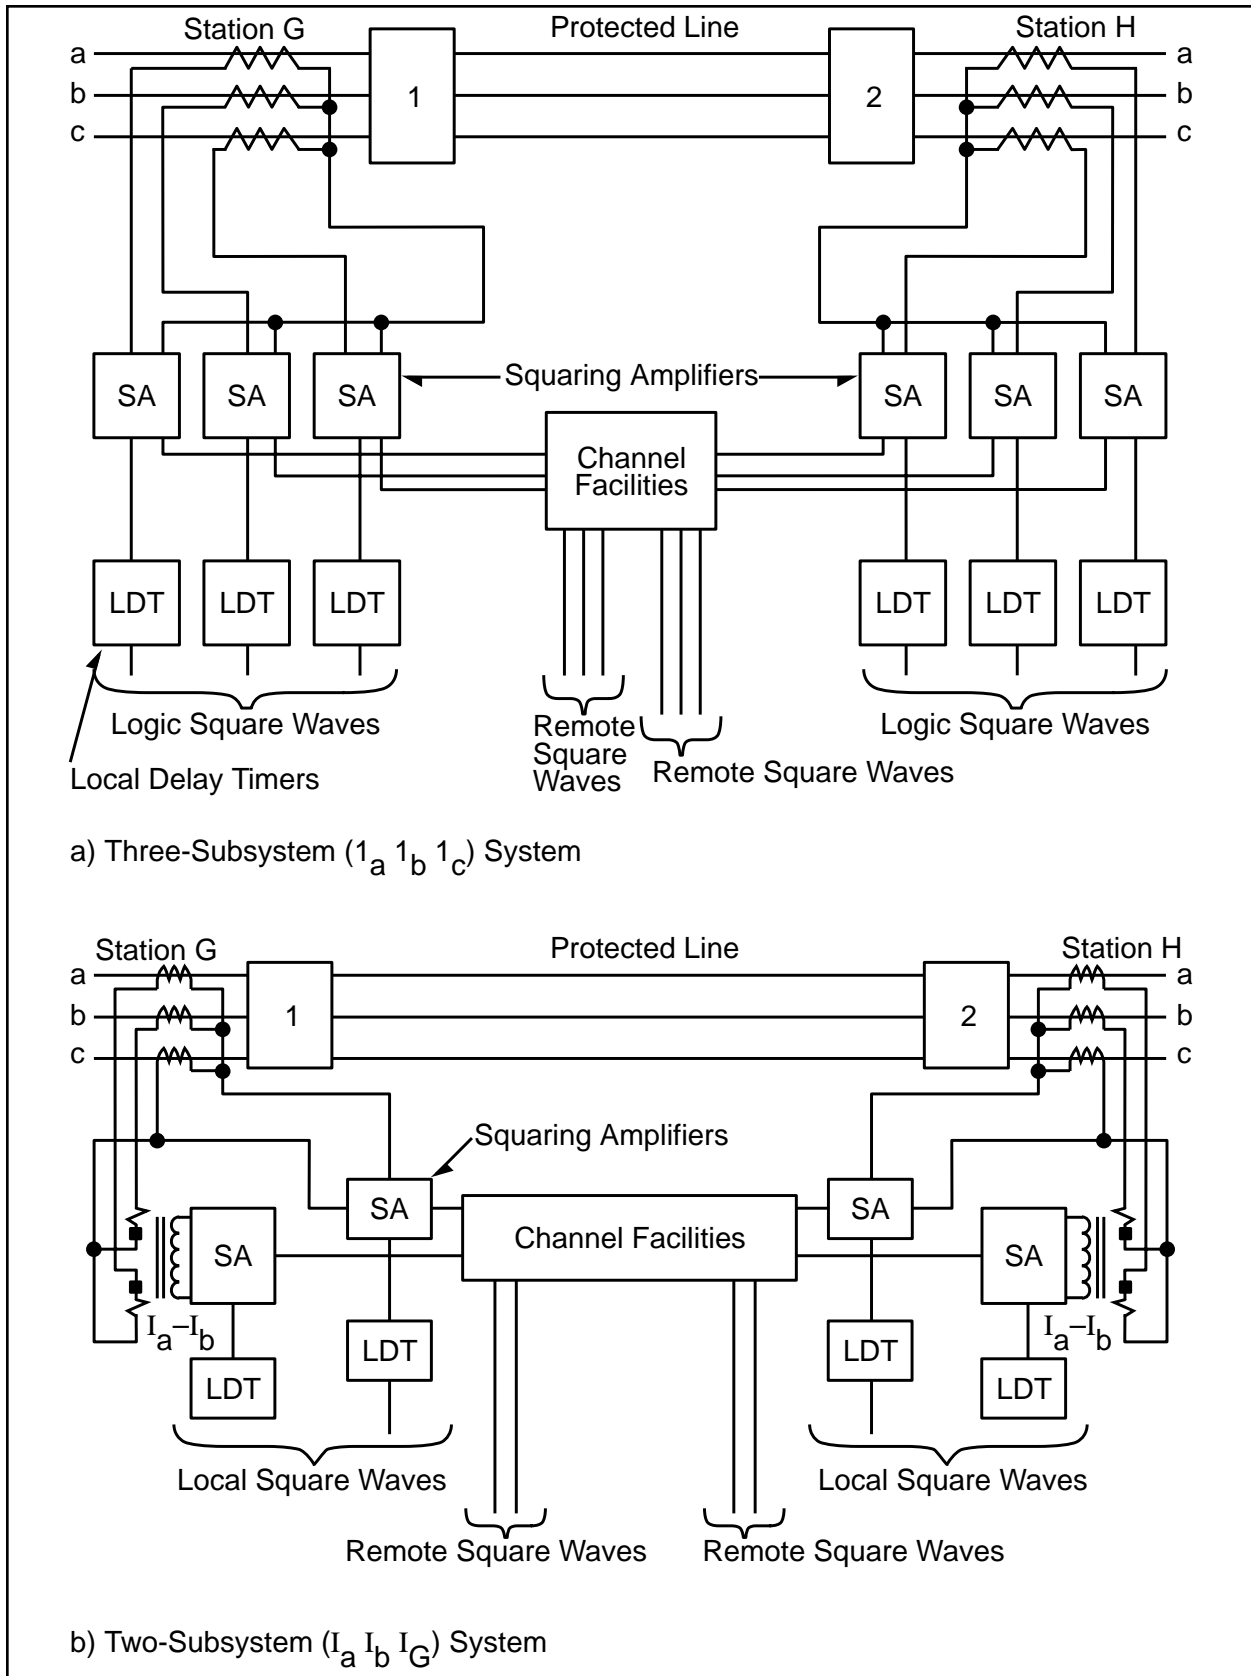

Figure 2-6. Basic Segregated Phase Comparison Systems.
The two-subsystem package is suitable for all applications except single-pole tripping, where the three-subsystem package must be applied. The basic operation of the scheme is illustrated in Figure 2-6. Each current is fed through a non-inductive resistor, supplying a voltage output to the squaring amplifier (SA) that is exactly proportional to the primary currents. The output of these amplifiers is used to key the individual channels and, through the local delay timers (LDT), to